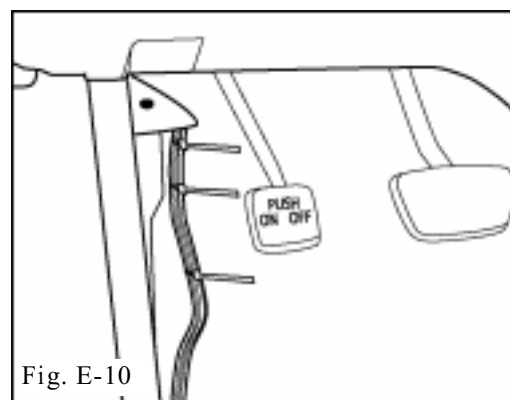

Fig. E-10
➡ 16. Bundle excess mirror wire harness to the vehicle's main harness and secure excess with three (3) wire ties. (Fig E-10)